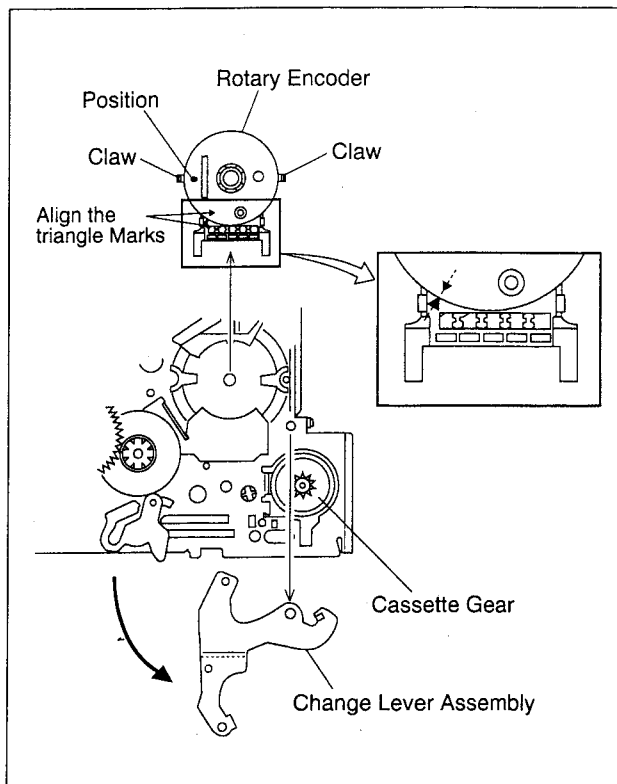

Fig. 2-5-18
- (1) Slide the change lever assembly in the direction of the arrow and remove.
- (2) While pushing the claws on both sides in the disengaging directions, take out the rotary encoder.
- (3) When attaching the rotary encoder, position it so that the alignment markings face each other as shown in Fig. 2-5-18, then attach the rotary encoder.